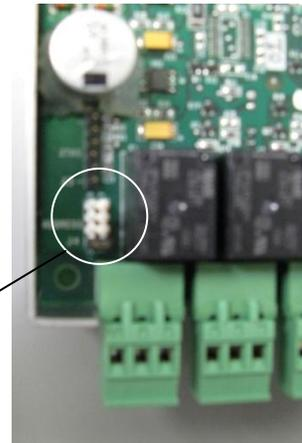

Figure 23-4 Address Jumper for #2 OM
2. See Figure 23-4 right. When installing two OM4 Output Module boxes, place the address jumper on the second OM4 on the second row of pins as shown. To do this, take off the four (4) nuts securing the aluminum cover and remove it, exposing the circuit board. Set the jumper and replace the cover.